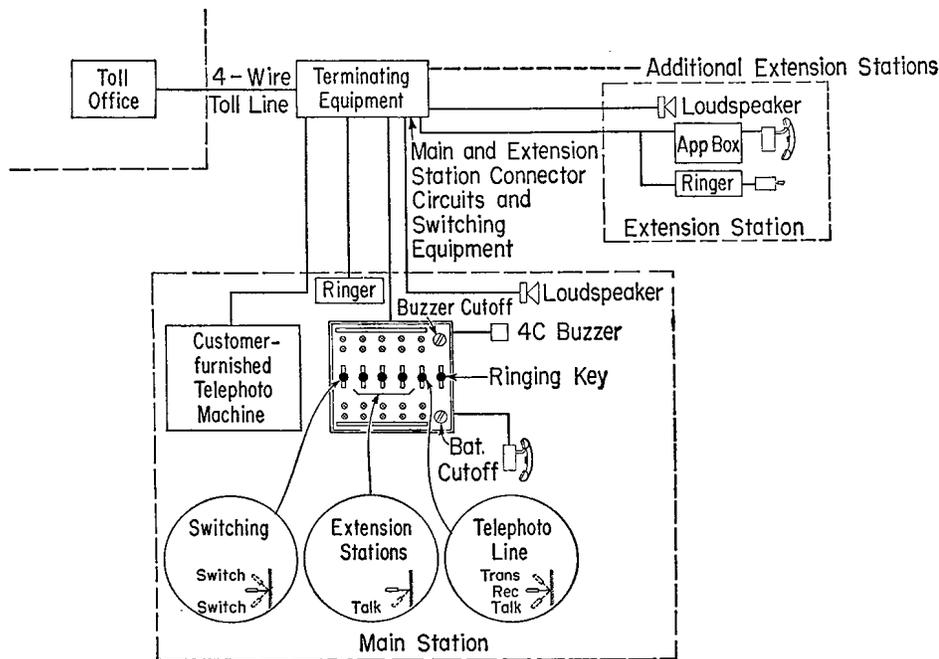

Fig. 1 — Typical 110A Key Equipment Arrangement
2.05 Fig. 1 illustrates a typical 110A key equipment arrangement.